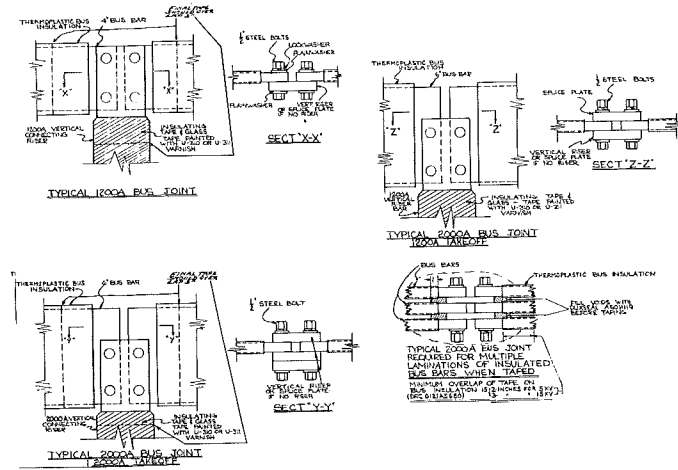

FIG. 24 (132C7770) METHOD OF MAKING BUS BAR CONNECTIONS
- (b) Bolt splice plates and bus bars together, following assembly instructions as given under CONNECTIONS. Also see Fig. 24 and Table A, Fig. 23.